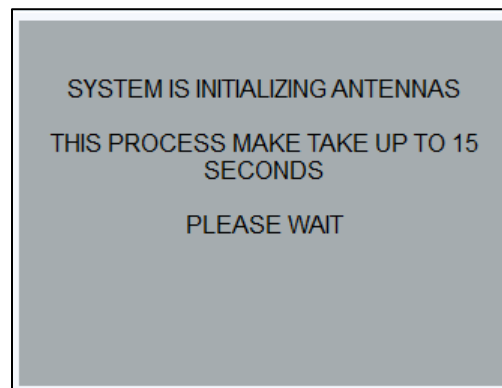

Figure 33: System Initialization message, 15 seconds.
This parameter allows the User to change the signal position in the time range window. The parameter options are Auto or Manual. The Automatic Signal Position Servo will move the radar signal so that the direct coupling (DC) will be at the top of the time range window. The servo will position the signal such that 10% of the total time range selected is set above the direct coupling and ninety percent (90%) of the time range is below 'zero time'. In Figure 33 below the position mode is set to Auto. The time range has been set to 10 ns. The surface percentage is set to 10%. The total time displayed is 9 ns. The total time recorded is 10 ns. If the position servo is set to Auto, the User can adjust the displayed Surface percentage between 10% and 5%.